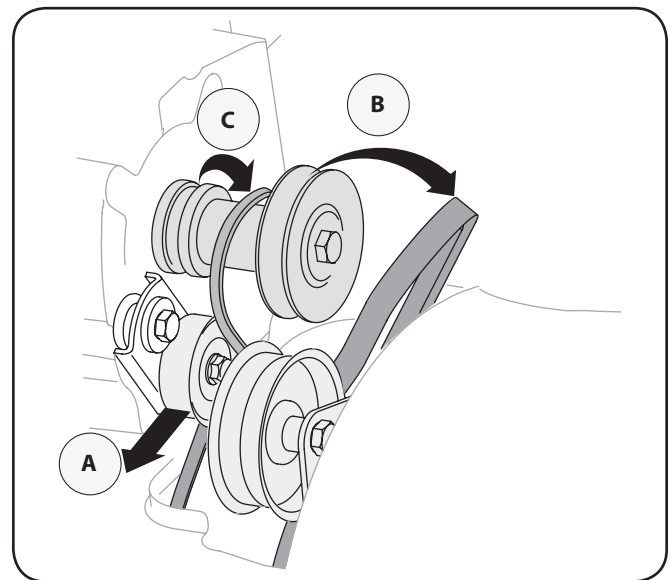

Figure 7-6
- a. Use a wrench to pivot the idler pulley toward the right. See Fig. 7-6.